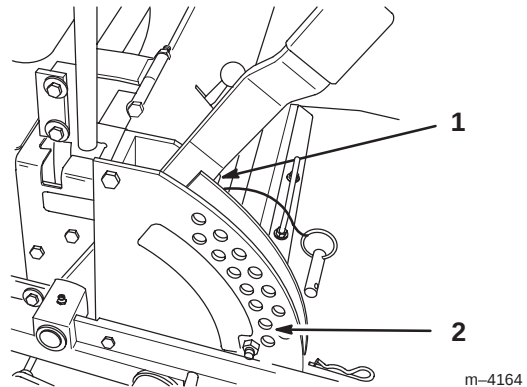

Figure 61
4. Raise the deck to the transport position and take all force off of the two large deck lift springs by loosening nut in front of each spring (Fig. 61).
5. Place two 1-1/2 inch (38 mm) thick blocks under rear left and right lower edge of mower. Place one 2-1/4 inch (57 mm) block under front center lower edge of mower. Lower mower to the 2 inch (51 mm) height-of-cut position (Fig. 61).
1. Raise deck lift lever to the transport position, (Fig. 61).